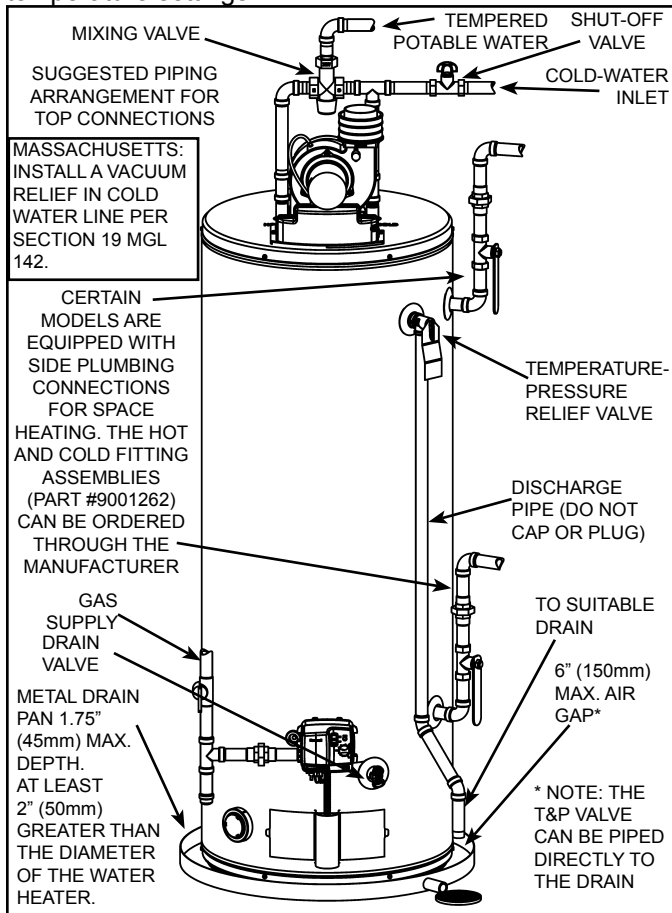

Figure 8
Models equipped with Combo Heating capabilities are shipped with the two side plumbing taps **OPEN** (items 18 and 20 in Figure 1 and see also Figures 8 & 26). If the heater is to be operated without using the side taps, these openings **must be closed** with the two pipe plugs supplied with the heaters.